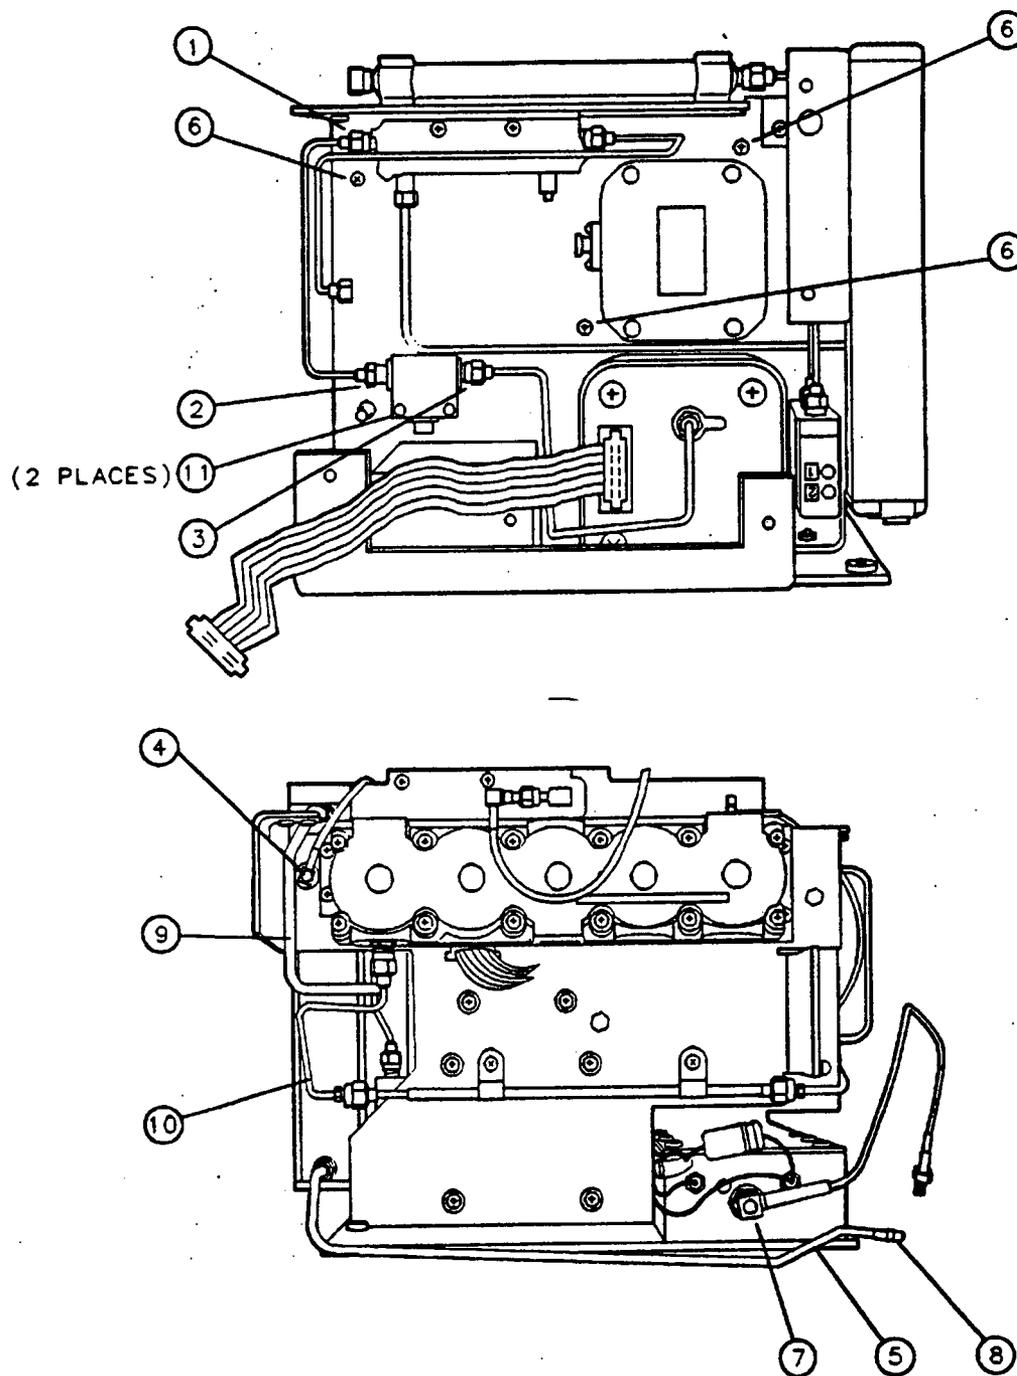

Figure 3-22. A3A13 Isolator Replacement
4. Loosen, but do not remove, the W32 semirigid cable (1) at the A3A10 Directional Coupler. See Figure 3-22.
5. Disconnect W32 from the A3A13 Isolator (2).
6. Loosen the W31 semirigid cable (3) at the isolator.
7. Disconnect the W23 coaxial cable (4) from the A3A4 Second Converter.
8. Remove the screw (5) that secures the A3A1 Comb Generator to the "B" bracket.
10. Remove the three screws (6) that secure the "B" bracket to the "A" bracket.
- Slide the "B" bracket out from under the A3A1 Comb Generator (7) and over the W10 semirigid cable (8).
- Pivot the "B" bracket around the W10 semirigid cable (9). The "B" bracket remains trapped by W10 and does not have to be removed from around W10 for this procedure.